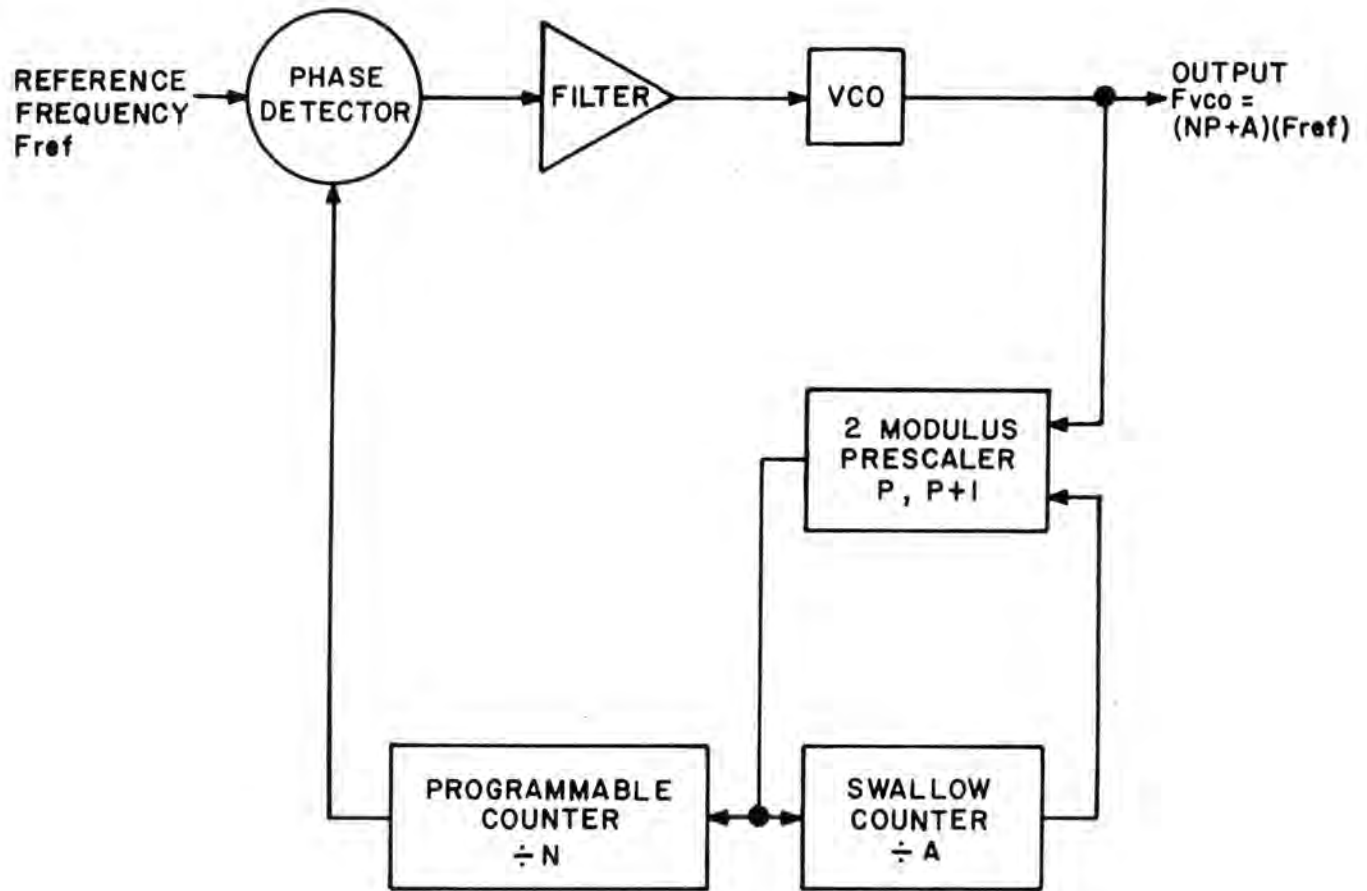

Figure 3-14. Two-Modulus Prescaling in the Phase Lock Loop
A variation of the basic phase lock loop, shown in Figure 3-14, is utilized in the 1st and 2nd LO Synthesizers. The divider portion consists of a two modulus prescaler and two programmable counters. The two-modulus (divider) prescaler accepts the output from the VCO and divides it by one of two numbers (P or P+1). The prescaler in the 1st LO is a divide-by-50/51 counter and the 2nd LO prescaler is a divide-by-100/101 counter. The swallow counter controls the number of times the prescaler divides by P+1. The programmable counter counts the number of pulses from the prescaler. Totally, these three components provide for coarse (N) and fine (A) tuning of the VCO.